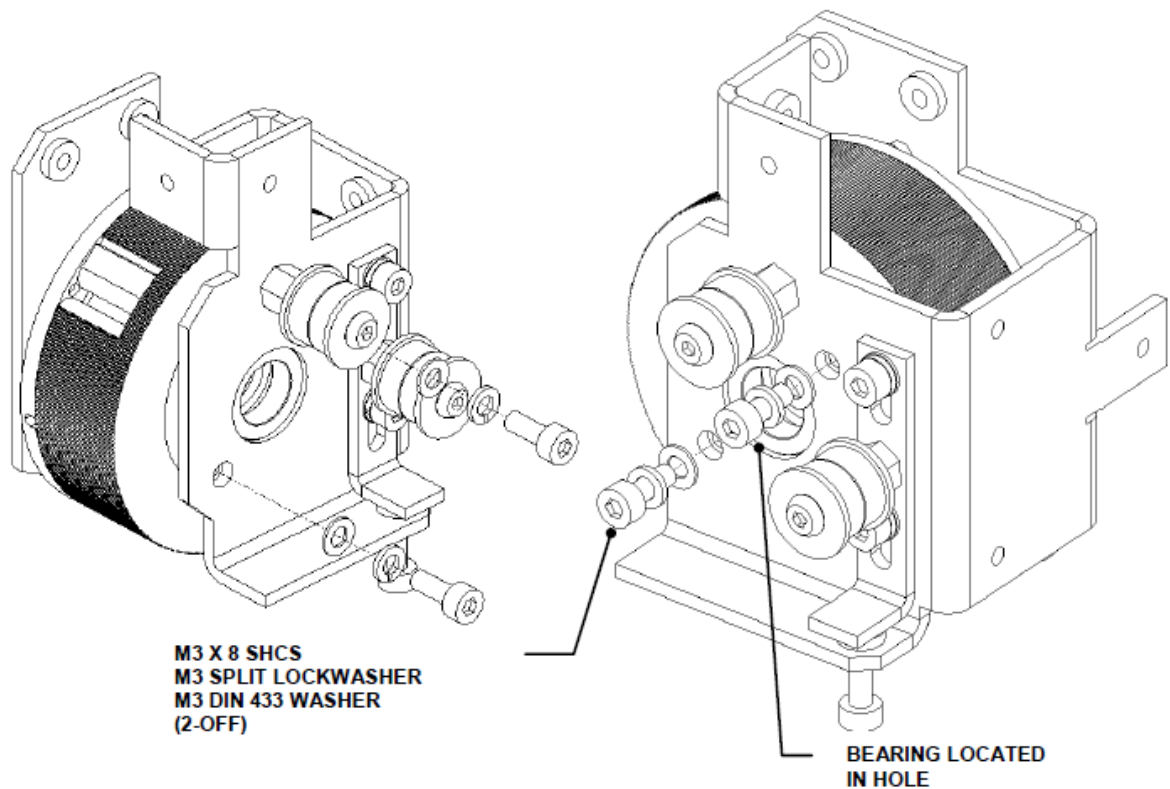

Figure Z-25: Removing the Bearing
2. Remove the bearing that is pressed into the spring housing (Figure Z-25).